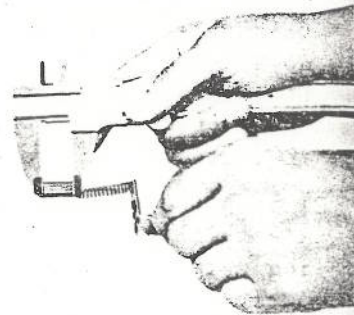

Fig. 10-127
- 1) Check to see if the carbon brush operates freely in the brush holder. Replace the brush if it is worn and no longer gives 7mm. (See Fig. 10-127)